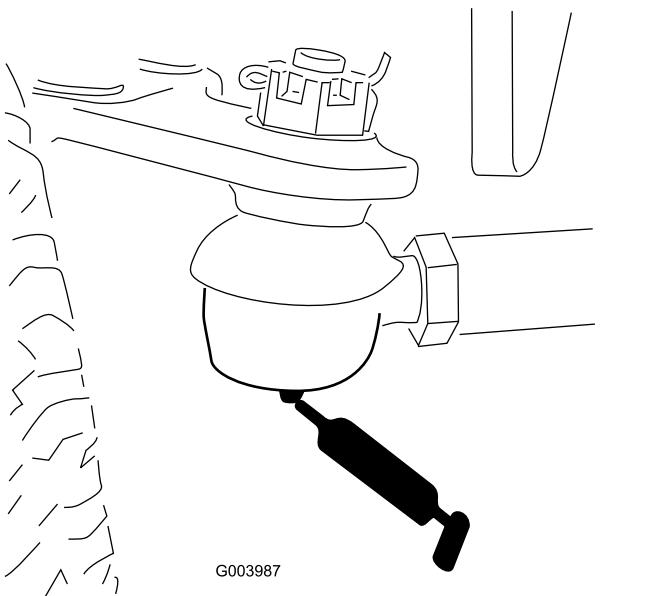

Figure 40
- Rear axle tie rod (2) (Figure 40)